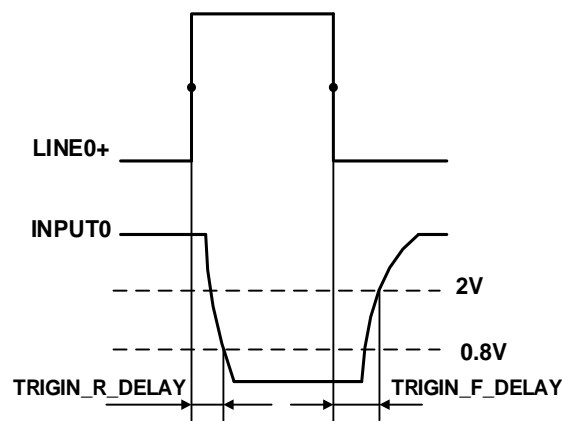

Figure 7-4 Parameter of opto-isolated input circuit
- Rising edge delay: $<50\mu\text{s}$ ($0^{\circ}\text{C}\sim 45^{\circ}\text{C}$), parameter description as shown in Figure 7-4
- Falling edge delay: $<50\mu\text{s}$ ($0^{\circ}\text{C}\sim 45^{\circ}\text{C}$), parameter description as shown in Figure 7-4
- Input rising time delay: $<2\mu\text{s}$ ($0^{\circ}\text{C}\sim 45^{\circ}\text{C}$), parameter description as shown in Figure 7-4
- Input falling time delay: $<2\mu\text{s}$ ($0^{\circ}\text{C}\sim 45^{\circ}\text{C}$), parameter description as shown in Figure 7-4